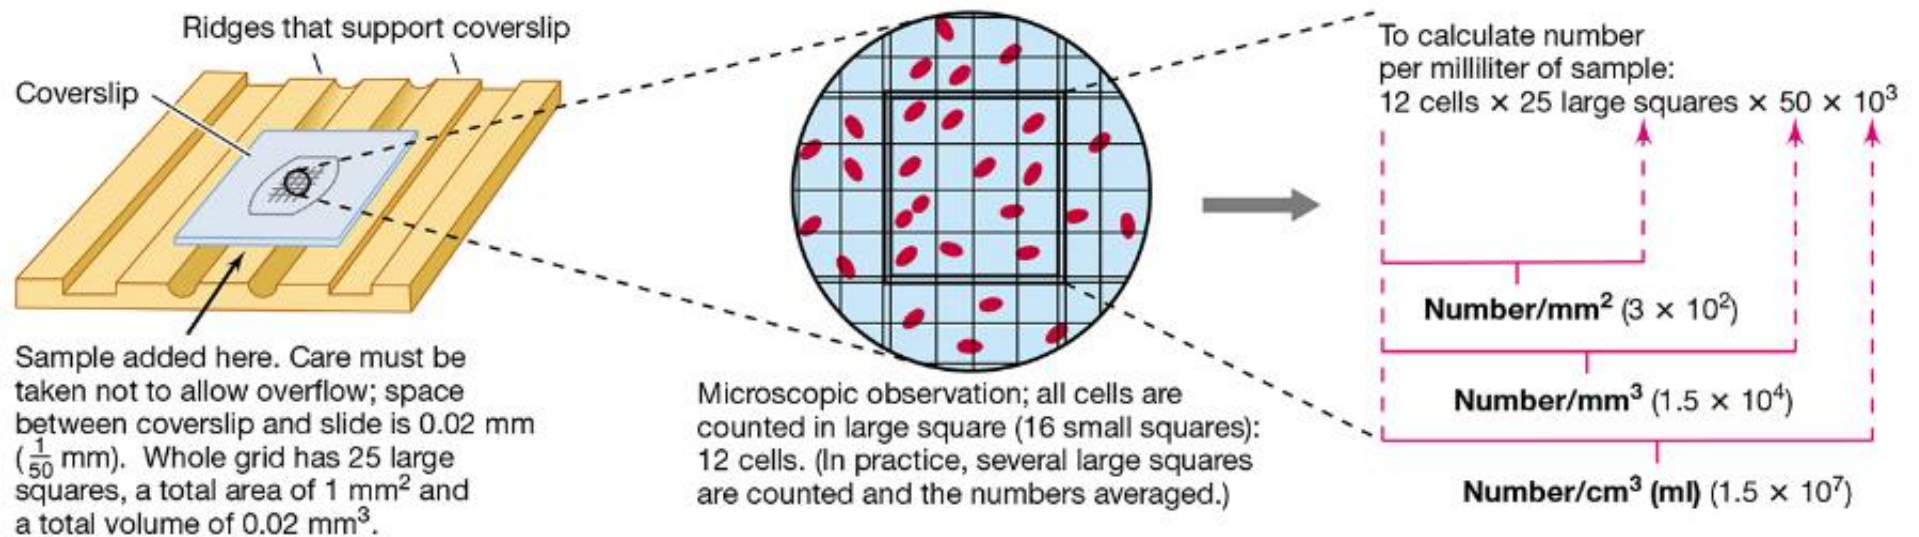

Figure 5.13
- counting chambers with squares etched on a slide for liquid samples (Figure 5.13)